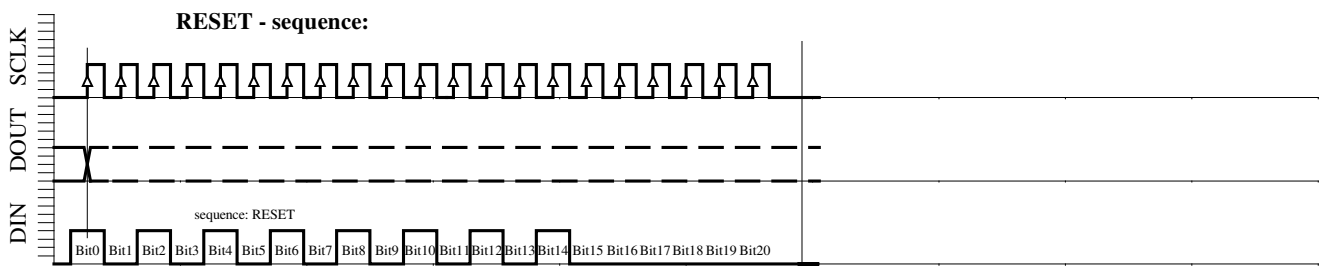

Fig. 6e: Reset sequence (21-Bit)
- RESET sequence (Figure 6e)
The RESET-sequence is special as its unique pattern is recognized by the module in any state. By consequence it can be used to restart if synchronization between the microcontroller and the MS5541B has been lost. This sequence is 21-Bit long. The DOUT signal might change during that sequence (see Fig. 6e).